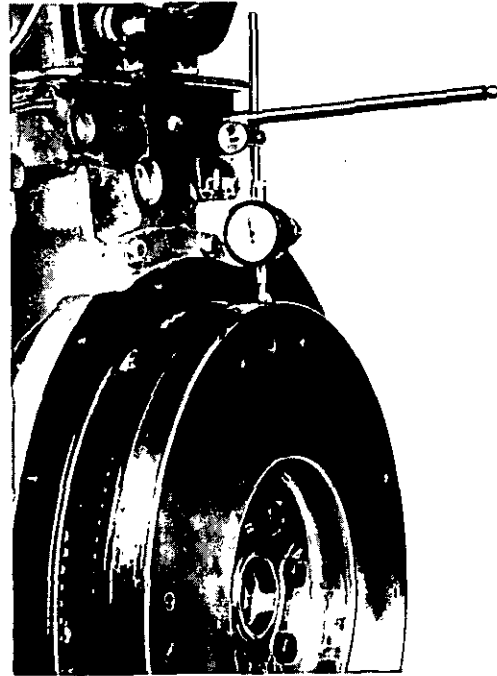

Fig. M.1
4. It is most important that flywheel run out be checked to ensure that it will not run out of balance, so before tightening setscrews, secure base of 'clock' gauge to cylinder block. Then set plunger of 'clock' on periphery of flywheel (See Fig. M.1).